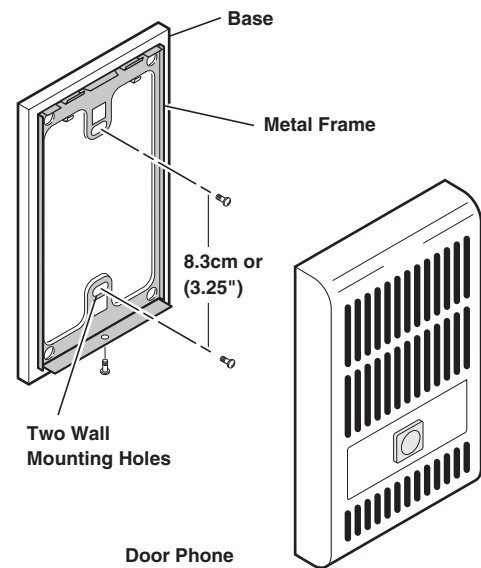

Figure 8-15 Door Phone (MDFB) Installation
The Strata CTX supports up to eight DDCB door phone control boxes. Each DDCB supports up to three MDFB door phones which provides a total of up to 24 door phones (see Figure 8-15). Each DDCB can provide a door unlock control relay in place of one of the door phones.
1. Remove the screw from the bottom of the cover. Detach the cover from the base and metal frame (see Figure 8-15).